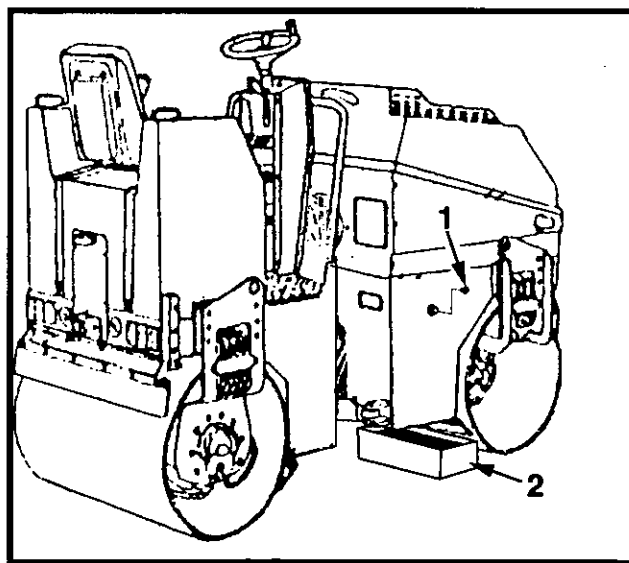

Figure 5-25 Engine Oil Drain Point
3. Place container with capacity of at least 7.6 liter (2, Figure 5-25), under drain point of engine and remove drain plug (1, Figure 5-25).
6. Clean the drain plug (1, Figure 5-25) and install with a new seal ring Torque drain plug to 41 pounds-foot (55 Nm).